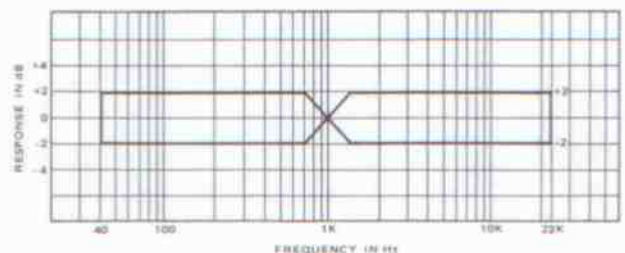

Fig. 7-6-9. Reproduce Frequency Response
3. Reproduce the test tape and take a reading of the output levels at the specified frequencies shown in Fig. 7-6-9. They should be within the specified limits shown below. If they aren't, adjust trim pot R202, 2 k ohms on the record/reproduce amplifier PCB so that the high range 16 kHz signal provides the same level reading as the 1 kHz signal.